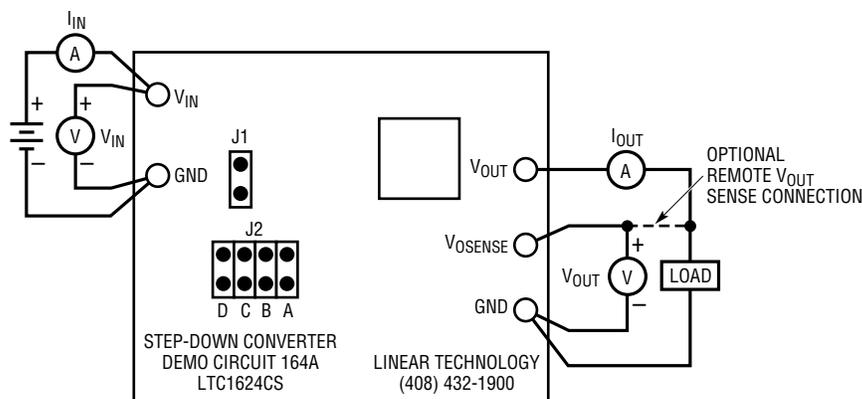

Figure 3. Proper Measurement Setup
- Refer to Figure 3 for board orientation and proper measurement equipment setup.
When trying to measure voltage regulation, remember that all measurements must be taken at the point of regulation. This point is where the LTC1624's control loop looks for the information to keep the output voltage constant. In this demonstration board this information point occurs between the signal ground and the output side of $R1$. These points correspond to the GND (E5) and V_{OSENSE} (E4) terminals of the board. Output voltage test leads should be attached directly to these terminals. The load should be placed across V_{OUT} (E3) to GND (E5). Measurements **should not** be taken at the end of test leads at the load; refer to Figure 3 for the proper monitoring equipment configuration.